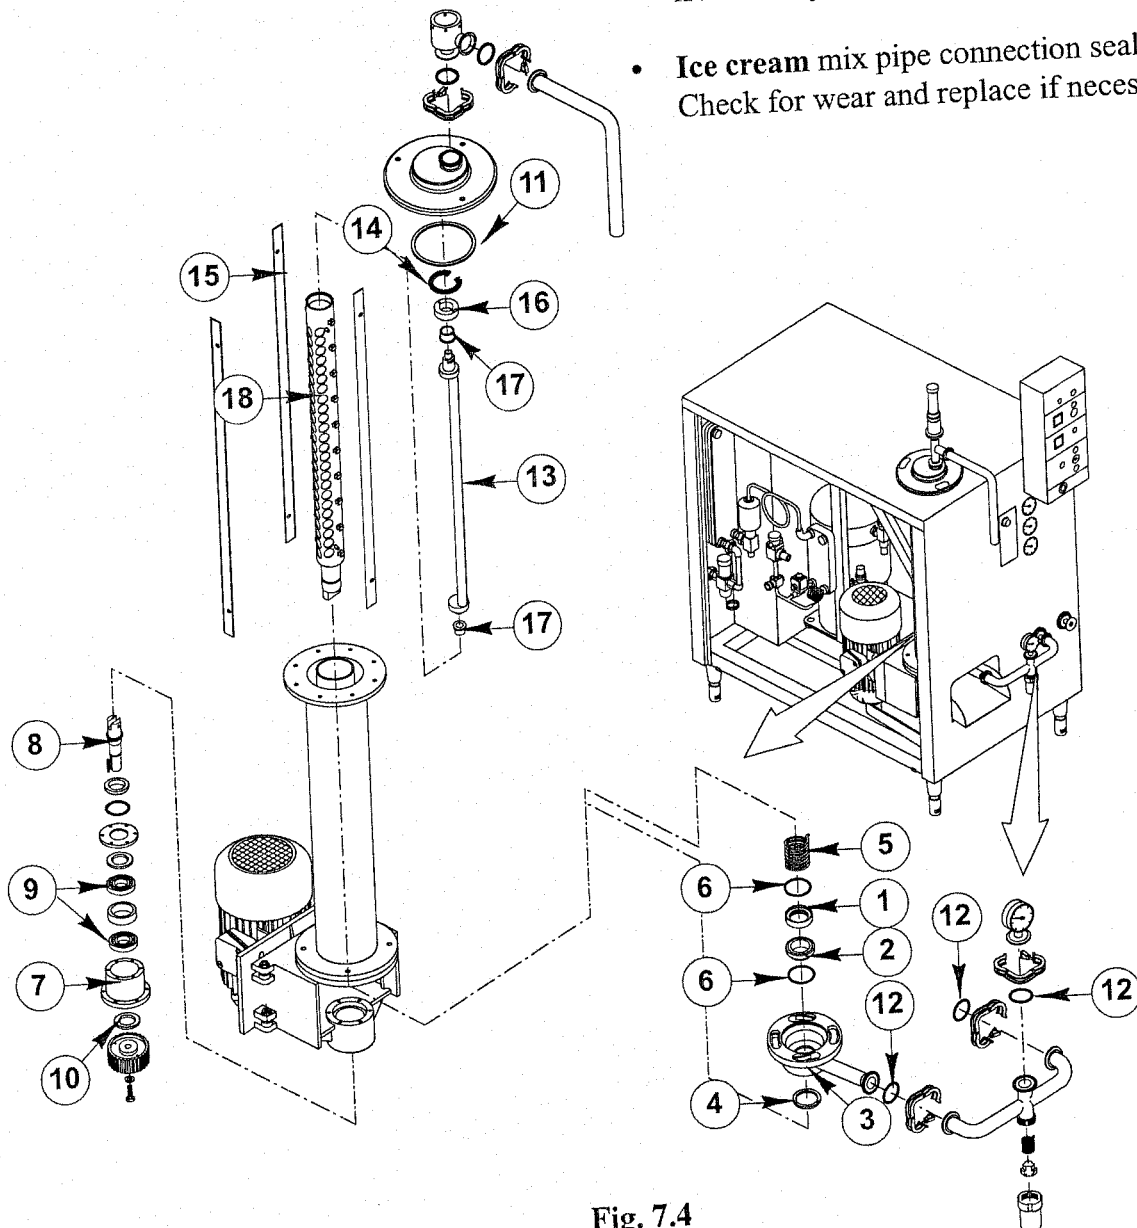

Fig. 7.4
- **Rotating seal (Fig. 7.4)**
- **Dasher (Fig. 7.4)**